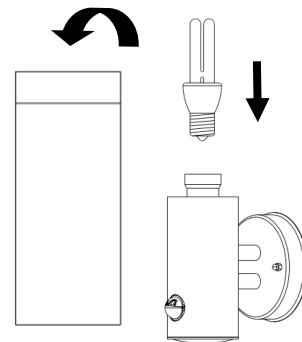

FIGURE 8
- (3) Insert the lamp into the lamp holder and turn clockwise to secure it. Do not over tighten. FIGURE 8